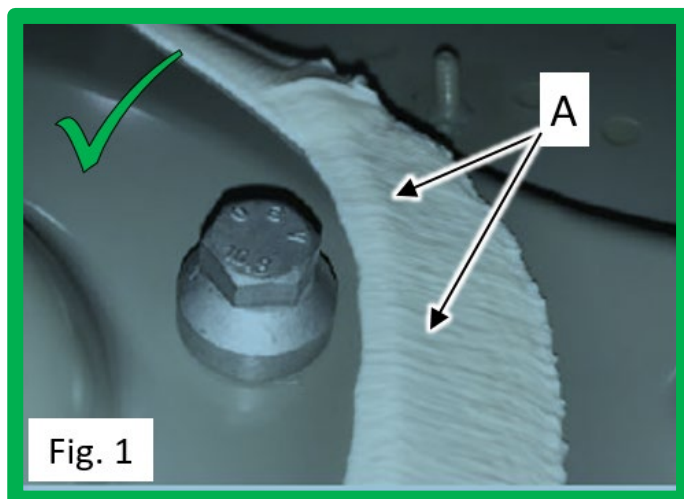

Fig. 1
- If the PVC sealant does not interfere with the bolt <arrows A> (fig. 1):